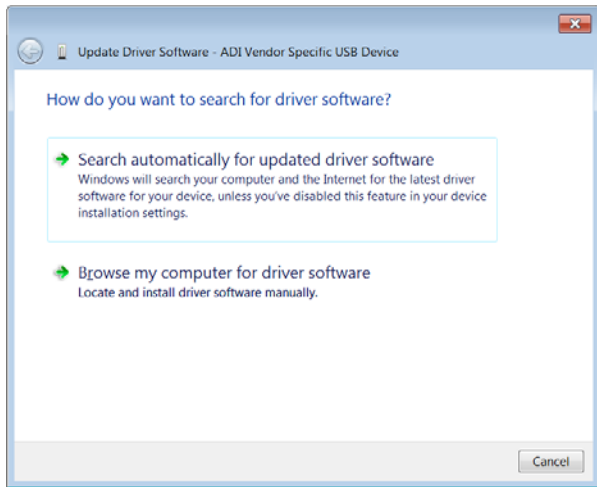

Figure 10. Update Driver Pop-Up
- To install the drivers for the device, click **Browse my computer for driver software** in the update driver software pop-up that appears (see Figure 10).